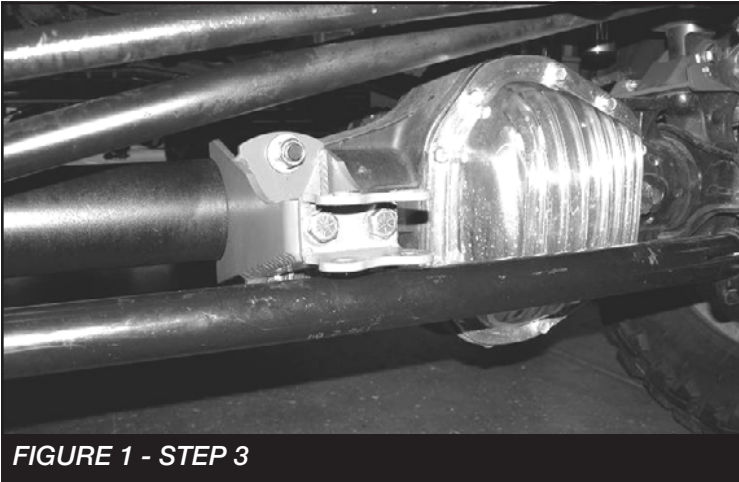

FIGURE 1 - STEP 3
3. Install the new bracket to the axle. The bracket will need to be positioned so the right side covers the lip on the differential. Use the supplied FT739U U-Bolt and hardware to attach the axle bracket to the axle. Leave loose at this time. **SEE FIGURE 1**